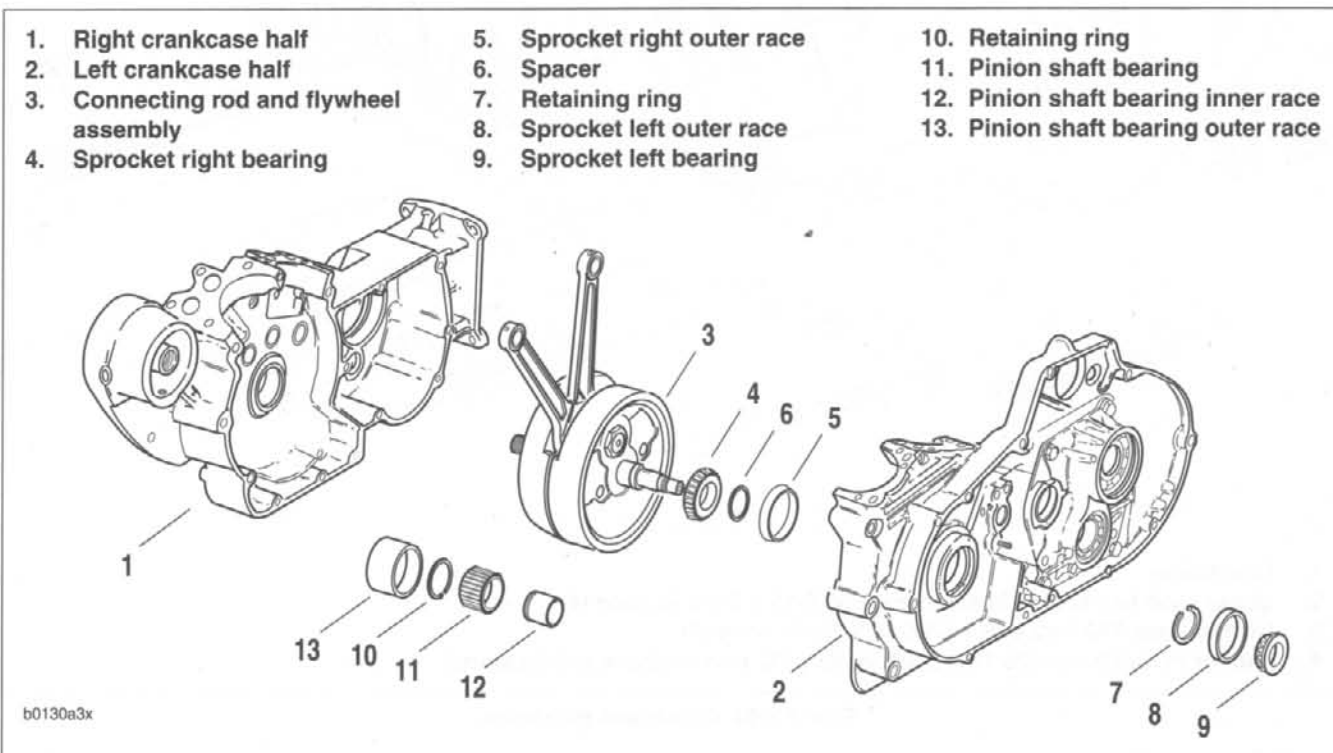

Figure 3-96. Crankcase and Flywheel Assembly
- c. Replace bearing inner spacer (item 6, Figure 3-96.) if difference (end play) in indicator readings is not 0.001-0.005 in. (0.025-0.127 mm). Choose spacer from Table 3-14.
See Figure 3-96. If it is necessary to remove either the pinion shaft bearing (11) or sprocket shaft bearing (4 and 9), proceed as follows:
11. Pinion shaft bearing (11) will remain on pinion shaft. Remove retaining ring (10), and bearing may be slipped off pinion shaft.
See Figure 3-96. The retaining ring (7) may be removed with the TIMKEN SNAP RING REMOVER/INSTALLER (Part No. HD-44069). See page 3-80 for procedure.
See Figure 3-96. A pressed-in bushing in the right crankcase half is the outer race (13). The inner race (12) is pressed on the pinion shaft.